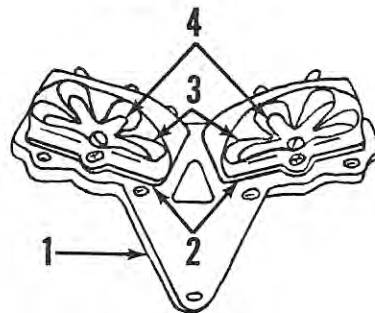

Fig. Mc80 — Rear view of inlet manifold showing inlet reed valve boxes, Reed petals (3) and reed stops (4) must be centered over holes in box (2).
REED VALVES. The inlet reed valve unit is located between inlet manifold and crankcase. All motors use a pyramidal reed plate as shown in Fig. Mc80. Reed petals (3) must be centered in ports of reed box (2), and may stand open a maximum of 0.010. Examine reed petals to make sure they are not bent, broken or cracked, and will seat against reed box throughout their entire length with little pressure. If reed petals (3) or reed stops (4) are distorted or bent, they should be renewed. Reed stops (4) must be centered over the petals when installing. Examine the seating surface of reed boxes (2) to make sure they are smooth and flat.